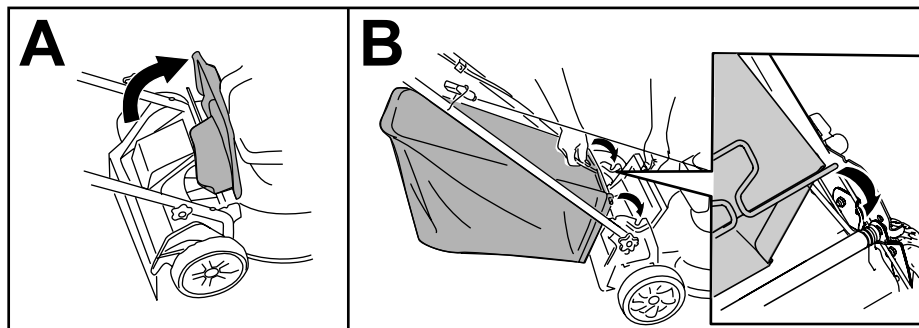

Figure 13
1. Lift up the rear deflector (A of Figure 13).
2. Insert the rod ends of the grass bag into the notches in the handle brackets (B of Figure 13).